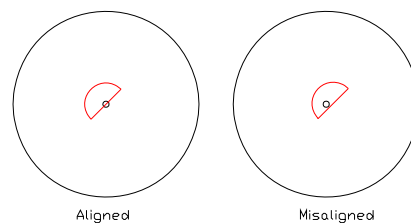

Figure 1: Alignment diagrams.
- Loosen the clamp screw on the focus motor assembly and remove the focus motor from the focus adapter (fig.1)
- Loosen the 3 socket set screws around the periphery of the focus adapter using a 2mm Allen wrench until the focus sleeve is able to fit inside the adapter. Note that it is important to insert the sleeve in the correct orientation with the lip furthest inside the adapter (the chamfered edge of the sleeve will be inserted first). Note the orientation of the sleeve as it has a recess around its outer surface, which will hold the sleeve in when the set screws are tightened. This recess must line up with the tips of the socket set screws. (See fig.1).
- Figure 1: Focus motor and adaptor setup.
- A semicircular red laser beam should be seen falling onto the alignment objective insert as shown in *figure 1*.